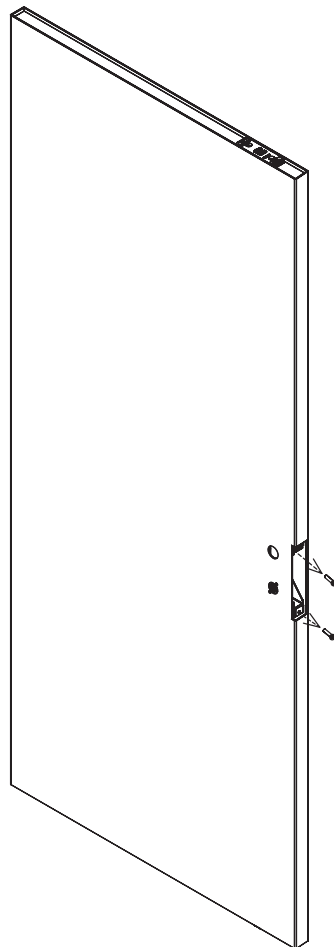
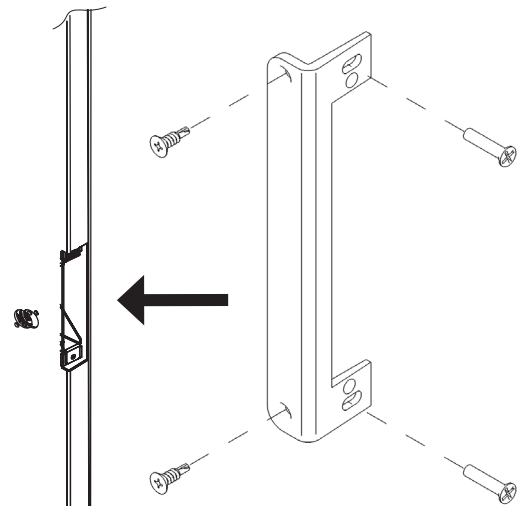

Figure 52
Figure 51
1. Remove the two (2) #12-24x1" flat head LBC mounting screws that are securing the lockbody case in the door. (Figure 51)
3. Reinstall two (2) #12-24x1" flat head LBC mounting screws (DO NOT FORCE).
4. Install two (2) #12x1/4" self tapping screws through mortise reinforcer into the face of the door. (Figure 52)